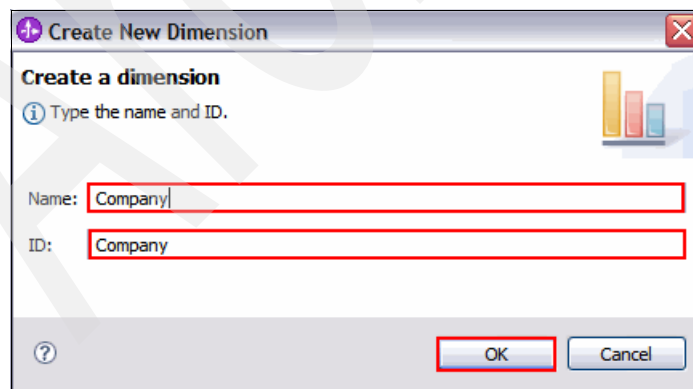

Figure 7-85 Create New Dimension window
2. In the Create New Dimension window (Figure 7-85), for Name, type Company, and click **OK**.